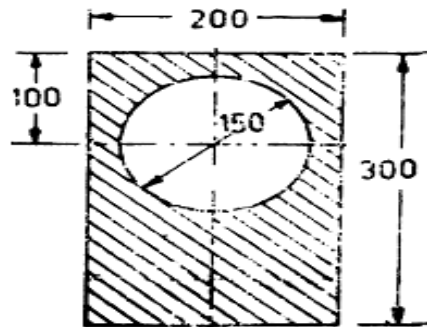

Fig:3
4. Find the Moment of Inertia of the shaded area shown in fig.3 about its centroidal axis. [10]